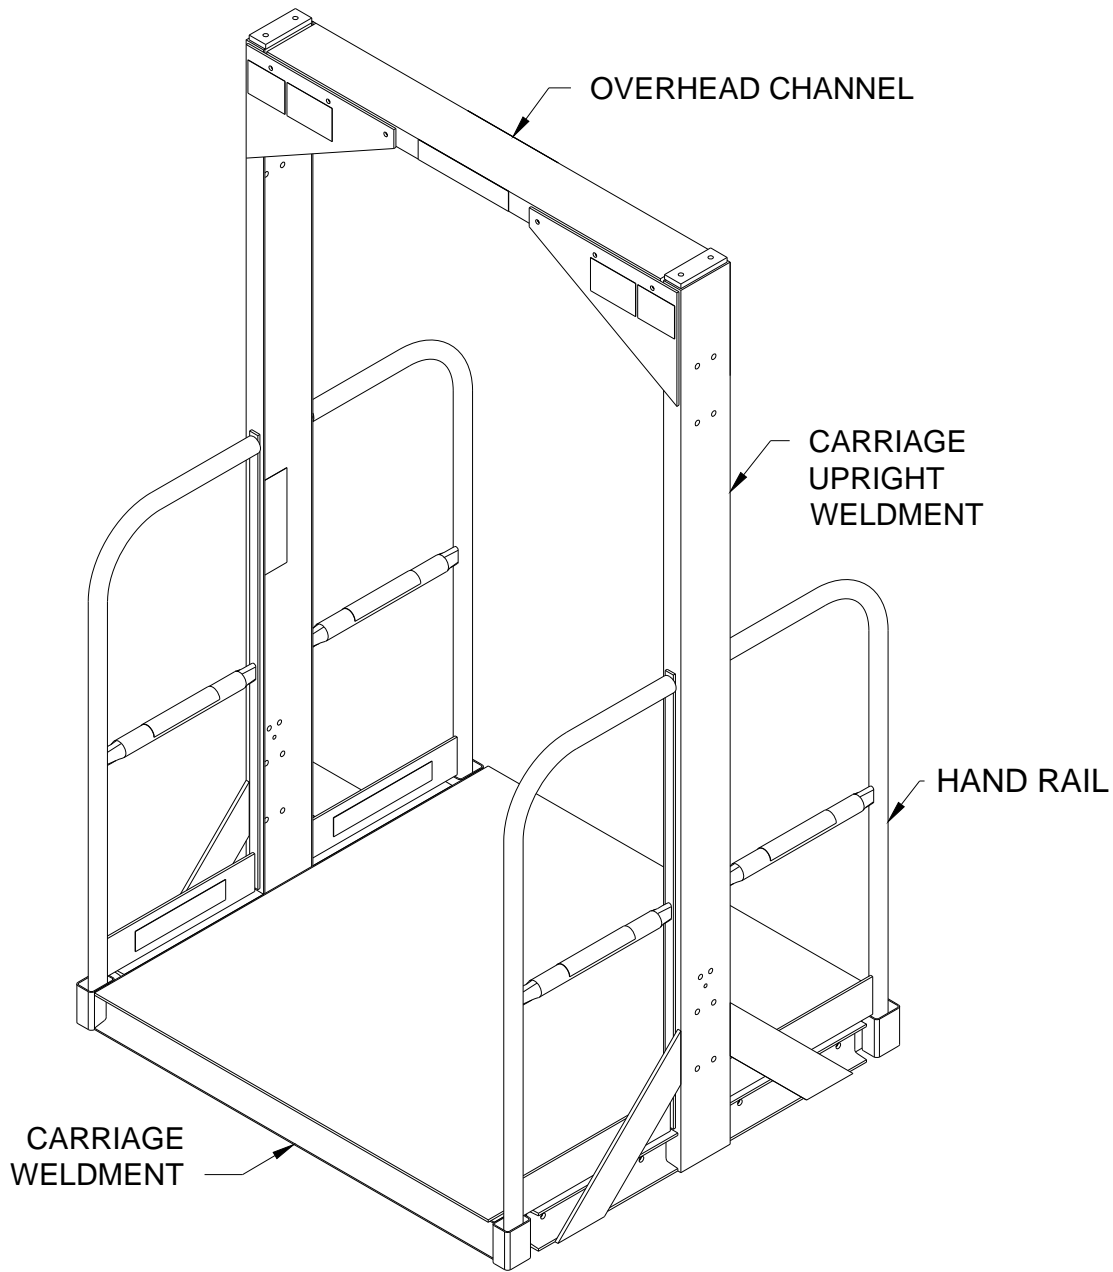

Figure 17 Carriage Assembly
4. Attach handrails or side guard panels by positioning as shown in **Fig. 17** and/or the General Arrangement drawing, and welding into place with a minimum 1/4" fillet, 2" on 10". Grind welds and touch up the paint where necessary.